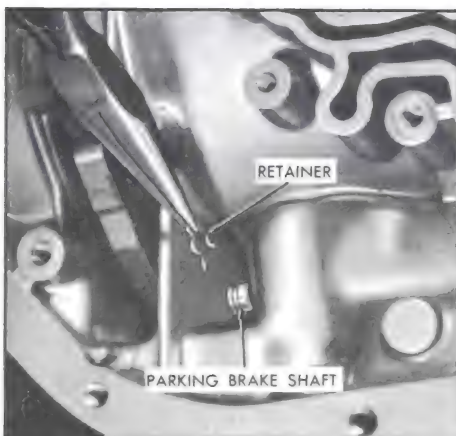

Figure 5-688
3. Install the parking pawl shaft retainer clip. See Figure 5-688.